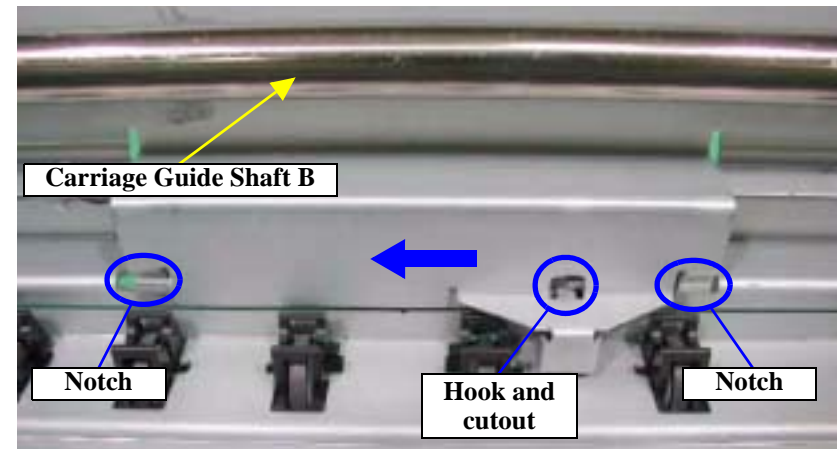

Figure 4-42. Removing the Upper Housing Mounting Plate
CAUTION When removing the Upper Housing Mounting Plate, fully be careful not to scratch the Carriage Guide Shaft B. Refer to Figure 4-42, "Removing the Upper Housing Mounting Plate".
- Insert the cutouts in the left and right of the Upper Housing Mounting Plate into the notches of the Front Frame, and hitch the cutout of the Upper Housing Mounting Plate on the notch in the center of the Front Frame. Refer to Figure 4-42, "Removing the Upper Housing Mounting Plate".